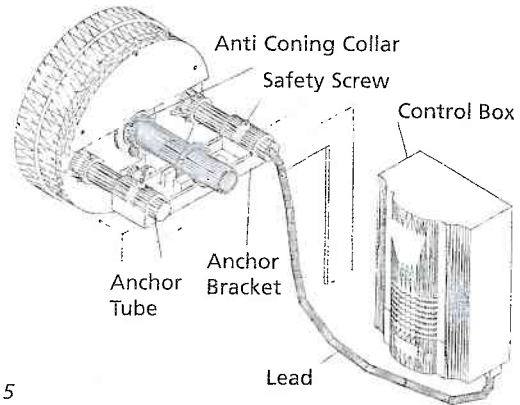

Fig. 5
- o) Slide anti coning collar over spindle so that it is flush with edge of the split ring. Secure anti coning tightly to ensure it will not move. (Fig. 5)
- p) Push the anchor tubes through the anchor block and slide the assembly over the wall bracket. Thread the drive unit loom through the anchor tube and locate the anchor tube firmly into the female boss on the main body. Once in place lock the anchor tube and block with the self tapping screw provided. (6 3/8) (Fig. 5)